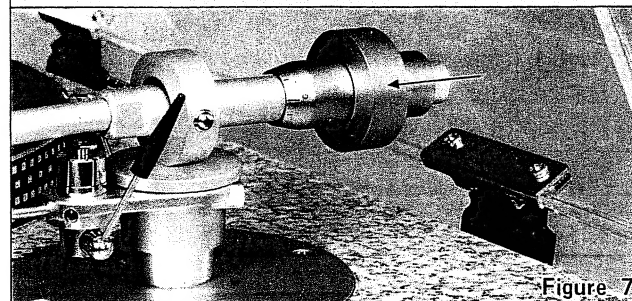

Figure 7
5. Mount the main weight on the rear part of tone arm. (Refer to figure 7)